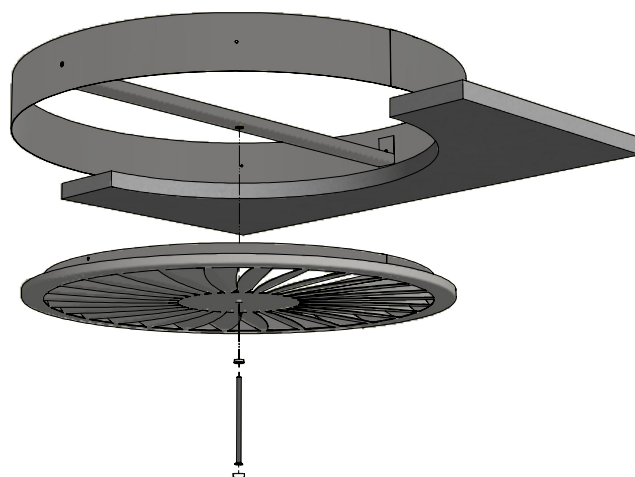

Figure 8: SD5/C with fixing collar in a solid ceiling application
- Fix the diffuser using the supplied central fixing bolt (2) & plastic washer (4) to the collar crossbar (figure 8)
- Cover screw head with decorative cap (3)